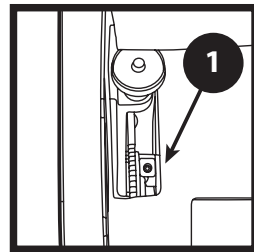

FIGURE 11
2. Install the rear idler such that its inside bearing surface is approximately 0.06 inches out from the wheel support. Secure the wheel with locking set screw. (Figure 11)